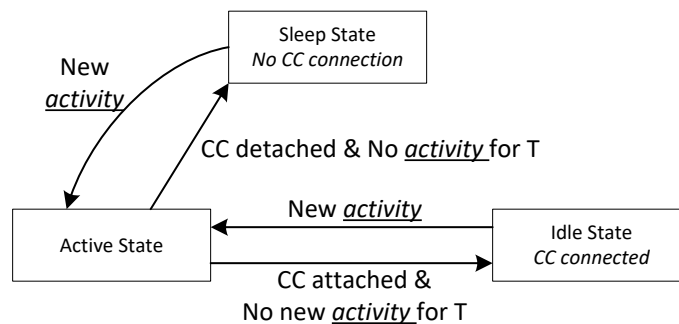

Figure 8-33. Flow Diagram for Power States
- (1) See Table 8-5 to see the exact meaning of I²C Address Index.
- (2) See Table 8-2 for how to configure a given ADCINx decoded value.
The TPS25751 can operate in one of three different power states: Active, Idle, or Sleep. The Modern Standby mode is a special case of the Idle mode. The functionality available in each state is summarized in Table 8-7. The device automatically transitions between the three power states based on the circuits that are active and required. See Figure 8-33. In the Sleep state, the TPS25751 detects a Type-C connection. Transitioning between the Active mode to Idle mode requires a period of time (T) without any of the following activity: